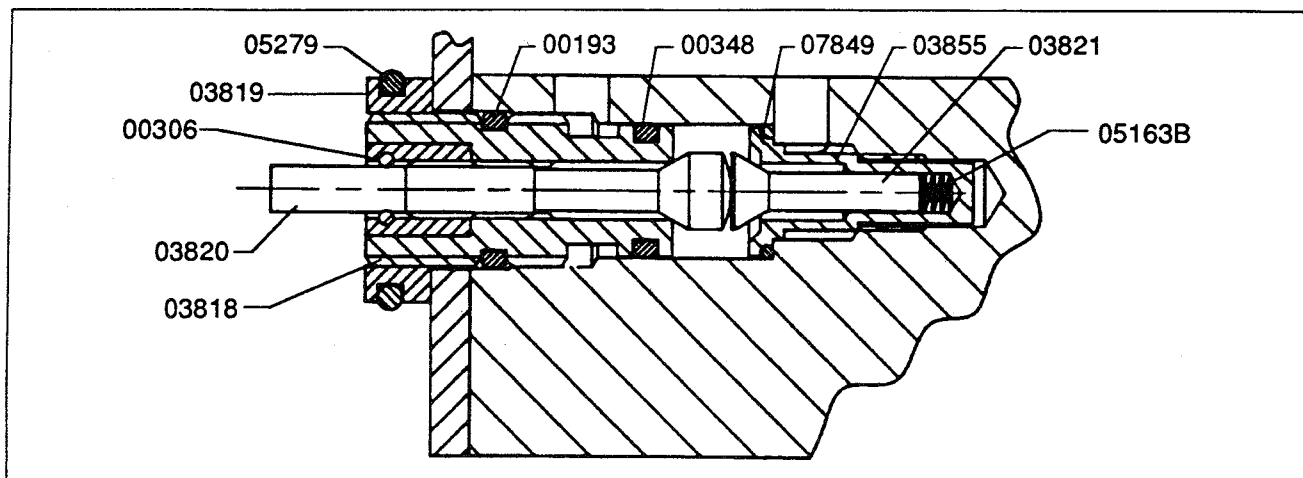

Figure 20
14.0 FRONT AND REAR VALVE SEAT ASSEMBLY - FRONT OF VALVE BLOCK (FIGURE 20)